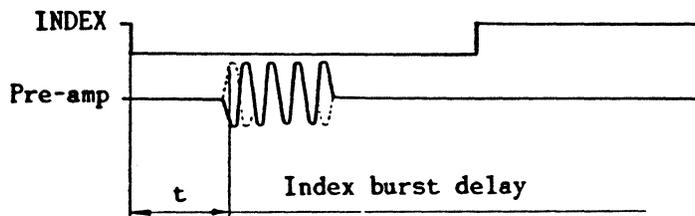

Fig. 420 Index burst timing
- (2) Start the spindle motor and load the alignment disk.
- (3) Shift the head to track 02.
- (4) Measure  $t$  of Fig.420.